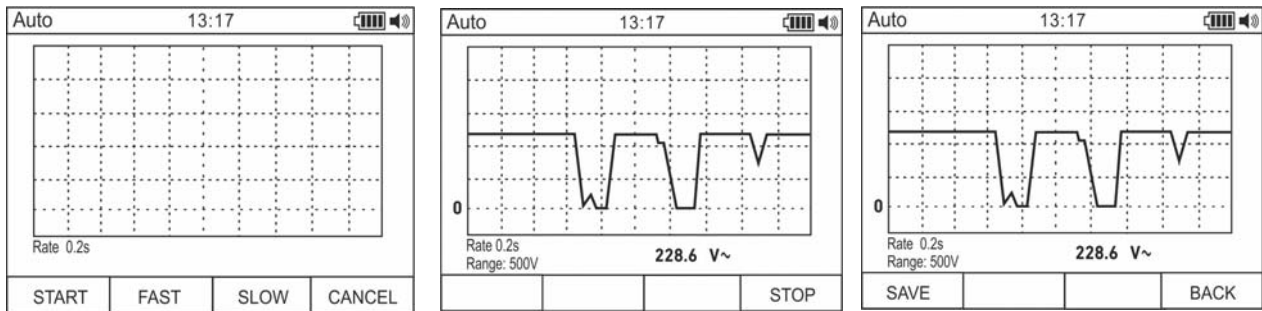

Fig. 8: Creating and saving a graph of measurements
1. Press the **F1** key to enter the section for creating a graph of the quantity to be measured (see Fig. 8 – left side).
3. Press the **F1** key to start creating the graph. The measuring range (automatically inserted by the instrument) and the real-time value are displayed by the instrument (see Fig. 8 – central part).
5. Press the **F1** key to save the graph in the instrument's memory or the **F4** key to start a new graph (see Fig. 8 – right side).